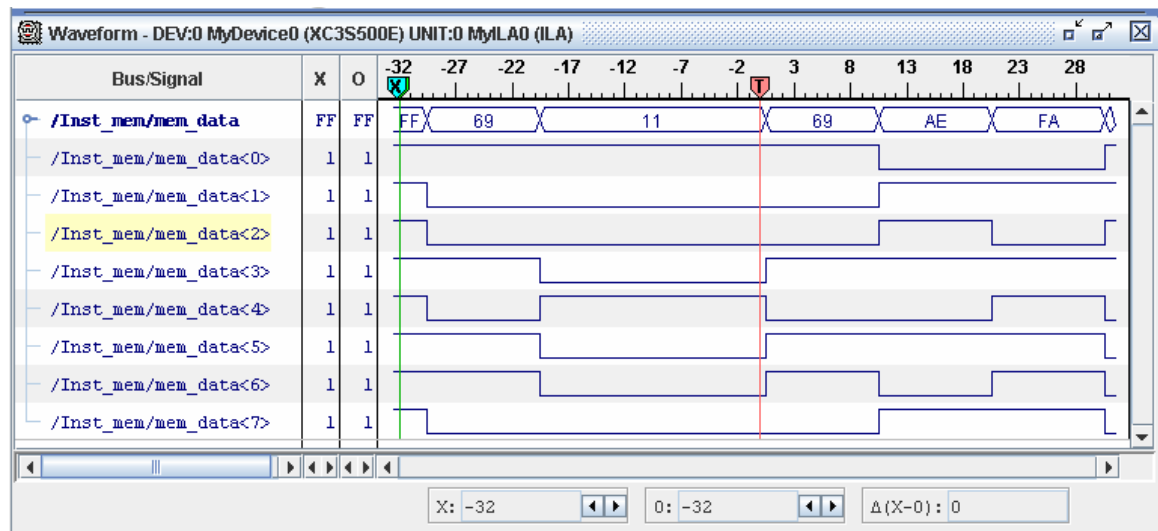

Figure 3.6 – Waveform window showing the captured data
- ⑤ ChipScope Pro Analyzer will show **Waiting for Upload** message. Please make sure that the slide switches SW0 (addr_rst) & SW1 (addr_ce) of Spartan 3E Starter kit are active LOW and active HIGH respectively. When the **addr** bus reaches the value **9** the status of **mem_data** bus will be captured. The status of mem_data bus, 32 sampels before the condition and 32 samples after the condition will be shown in the waveform window (figure 3.6).